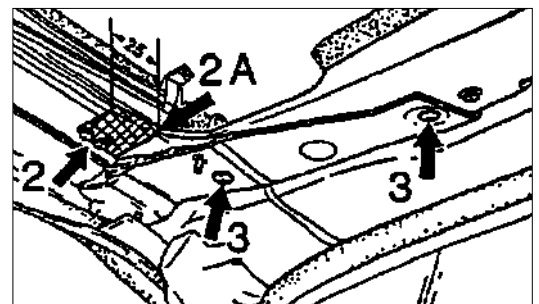

Figure 7
**3.1** Shorten the corner plate bracket in the area of the bearing block holes. (Figure 7).
- Remove the allen head screws (Figure 7, arrow 2).
- Remove the area indicated by crosshatch (Figure 7 arrow 2).